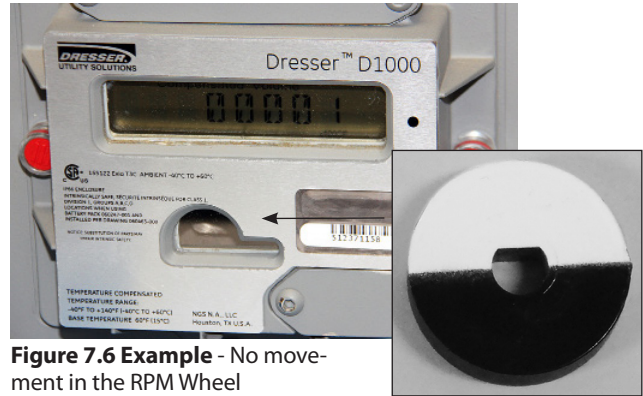

Figure 7.6 Example - No movement in the RPM Wheel
- Perform a visual test by looking at the black and white RPM wheel on the meter and ensure it is not rotating as shown in Figure 7.6 Example.